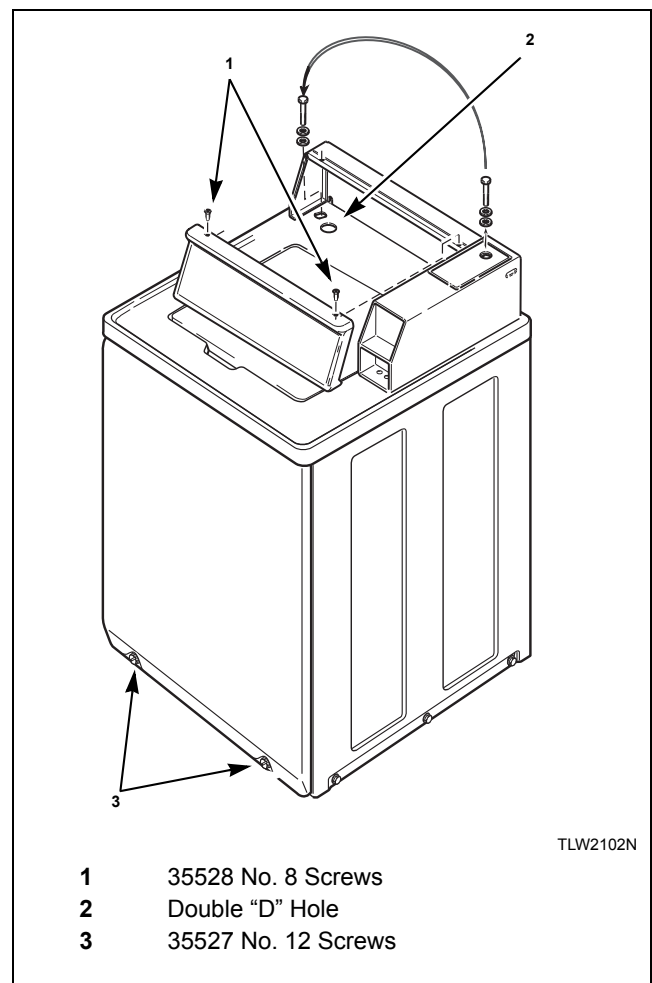

Figure 14
1. Remove the Phillips head screw from service door (refer to *Figure 14*).